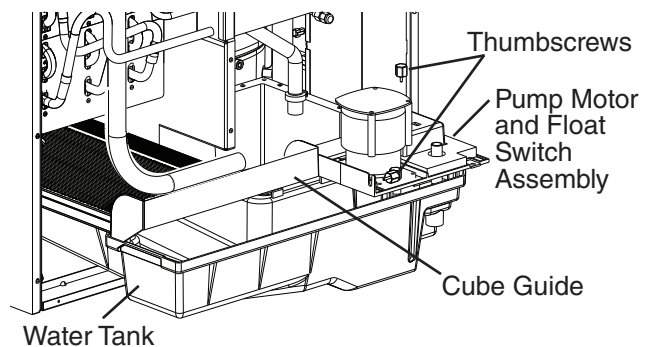

Fig. 19
- d. Remove the 2 thumbscrews securing the pump motor and float switch assembly. See Fig. 19
- 11) Replace insulation panel (A) and the front panel in their correct positions.